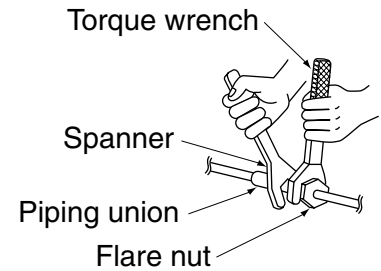

Fig. 12
- When connecting the pipings to the air conditioner, make sure to use a spanner and a torque wrench as shown in **Fig. 12**.